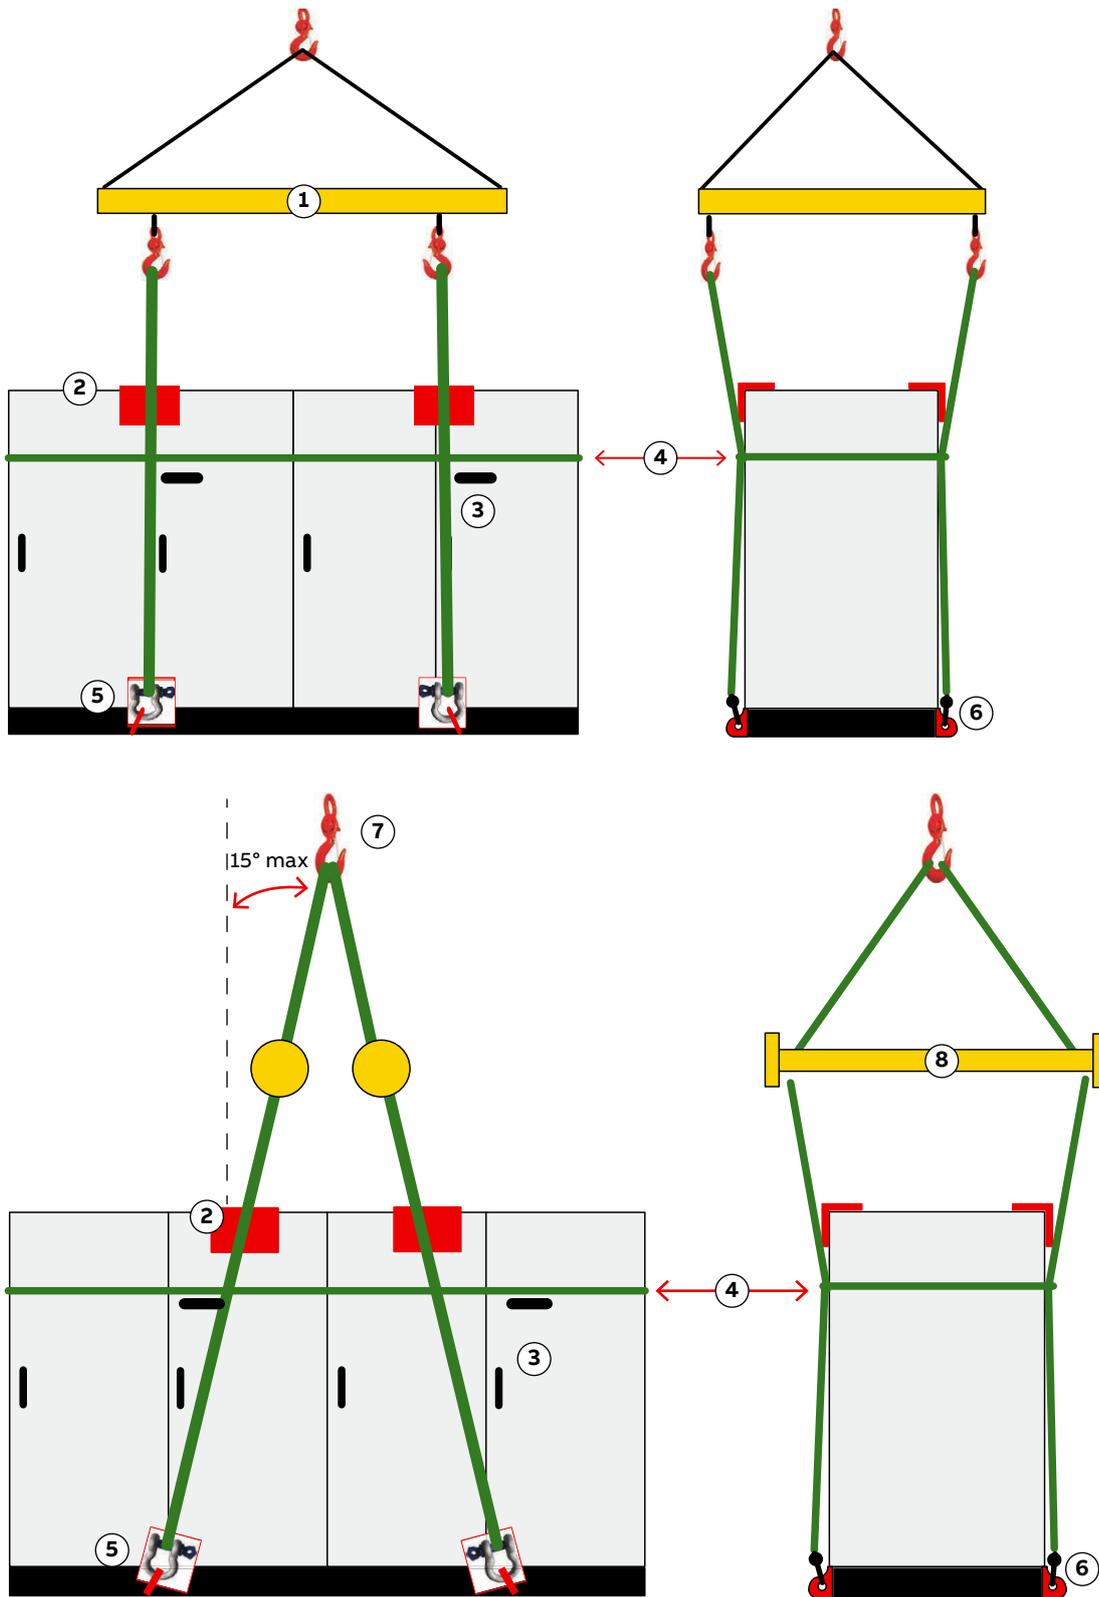

Figure 4-2 Lift frame and lift spreader
- To prevent the drive or transport unit from tipping when following these instructions, use an extra sling around the cabinet for stabilization (Fig. 4-2).
Refer to Fig. 4-1 and Fig. 4-2 when following these ABB recommendations:
- If a lift frame or lift spreader is not available, make sure that the slope angle is a maximum of 15° (see Fig. 4-2).